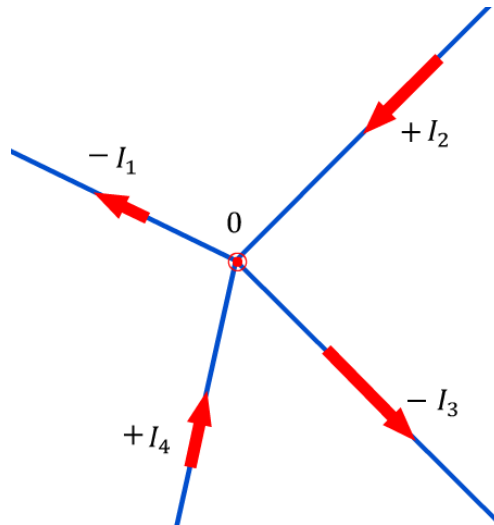

Figure 1.10: Kirchhoff's Point Rule
- Kirchhoff's *point rule* says that the sum of the currents flowing toward any point in an electric circuit must equal the sum of the currents flowing away from that point. This rule is shown in Figure 1.10.